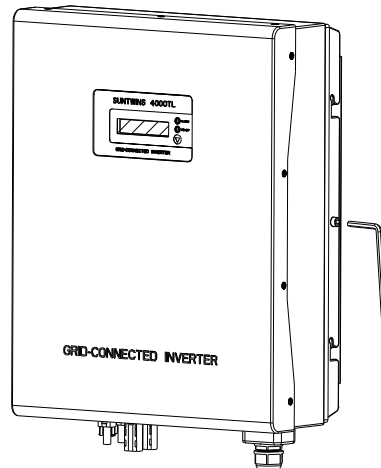

Fig.5 Fix safety-lock screws
Step3: Fix safety-lock screws at left side and right side as illustrated in Fig.5 with the attached socket head wench.